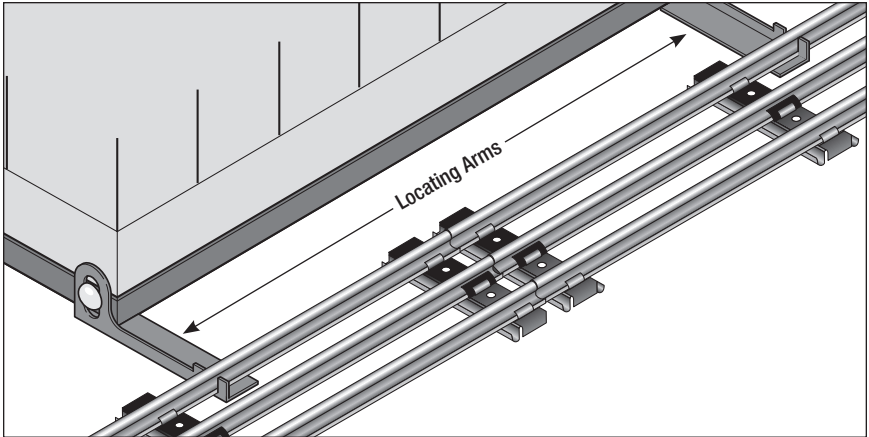

Figure 2. Positioning the track in the locating arms
2. Position the corral on any straight length of track with a minimum of two 0 or 0-27 gauge straight track sections. Slide the rails into the slots at the ends of the locating arms. See Figure 2. The locating arms should lie flat on your layout.